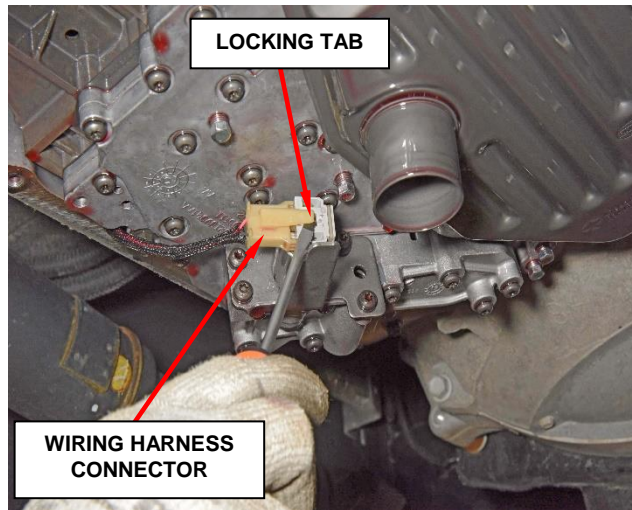

Figure 2 – Wiring Harness Connector
8. Using a pick or small flat blade screw driver, carefully unseat the locking tab then grasp the housing connector and disconnect the wiring harness connector from the torque converter clutch solenoid (Figure 2).